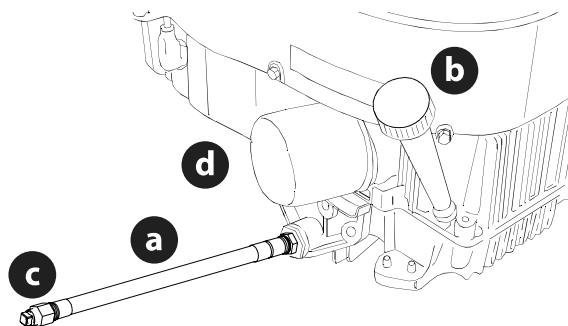

Figure 35
1. Locate the oil drain hose (a) on the side of the engine (Figure 35).
2. Place an appropriate oil collection container with at least a 2.5 quart (2.37 liter) capacity below the opening of the oil drain hose, to collect the used oil. Remove the oil fill cap/dipstick (b) from the oil fill tube (Figure 35).
3. While holding the free end of the oil drain hose over the oil collection container, unscrew the square head hose plug (c) from the end of the oil drain hose (Figure 35). Drain the engine oil into the collection container.
5. Remove the oil filter (d) and drain into the collection container (Figure 35).
6. Replace the oil filter (d) and refill the engine with new oil as instructed in the Engine Operator's Manual (Figure 35 on page 26).